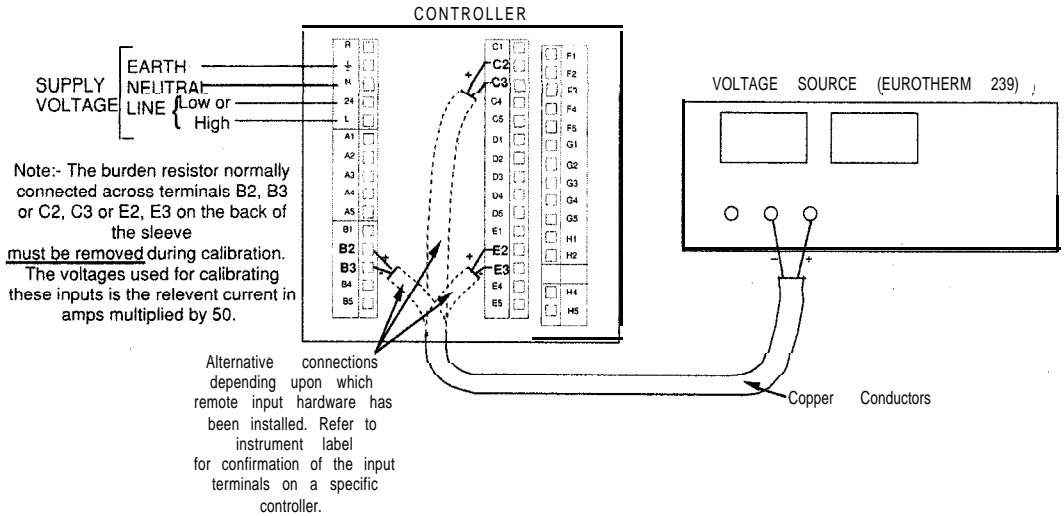

Figure 6 Instrument connections for icL and ich calibration procedure.
- 2) Connect the calibrator to the pair of terminals used for the remote input on the specific instrument to be calibrated, as in Figure 6.
- 4) Connect a voltage source such as the Eurotherm 239 to the instrument as Figure 6 using the terminals numbers selected from the table above.